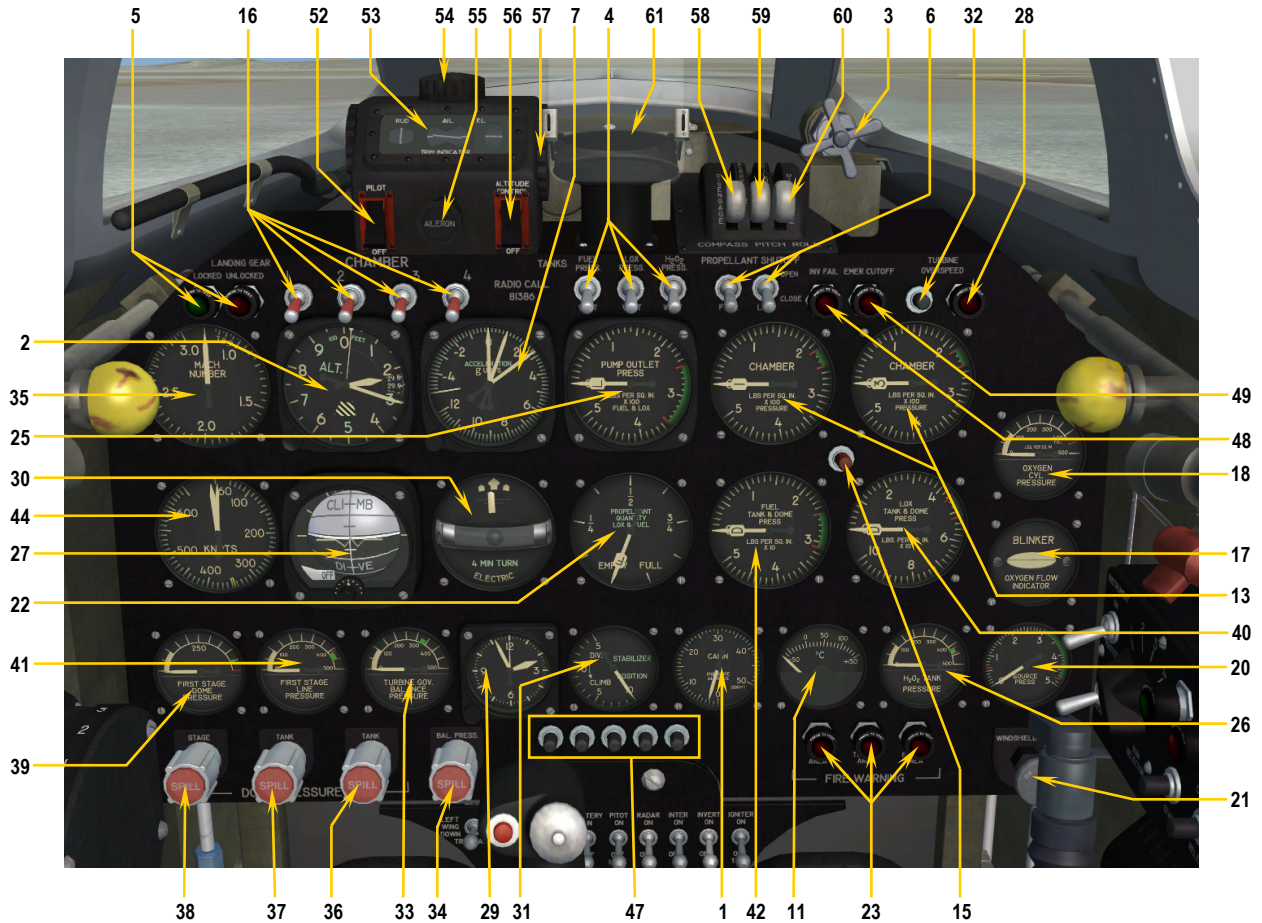

Figure 5-4
A modified Sperry A-12 autopilot unit is installed in the Xtreme Prototypes X-1C for Flight Simulator X (see fig. 5-4). Most of the following autopilot levers and switches on the unit are self explanatory:
**AP Autopilot Master Switch** – Self explanatory [52, fig. 5-4].
**AP Dual Elevator Trim Wheels** – Turning either wheel [57, fig. 5-4] up or down with the mouse wheel will command the plane's nose up or down.
**AP Turn Knob** – Turning the AP turn knob [54, fig. 5-4] with the mouse wheel will command a turn with a bank proportional to knob position. To roll out of the turn and level the wings, simply return the turn knob to its center position.
**AP Trim Conditions Indicator** – The indicator [53, fig. 5-4] displays rudder, aileron and elevator trim conditions.
**AP Altitude Hold Switch** – Self explanatory [56, fig. 5-4].
**AP Aileron Trim Knob** – Turning the AP aileron trim knob with the mouse wheel [55, fig. 5-4] will actuate the
**AP Compass Hold (FS AP Heading Hold) Lever** – Self explanatory [58, fig. 5-4].
**AP Pitch Hold (FS AP Attitude Hold) Lever** – Self explanatory [59, fig. 5-4].
**AP Roll Hold (FS AP Wing Leveler) Lever** – Self explanatory [60, fig. 5-4].
The (never built) X-1C, which was designed to test high-speed armaments, was to be equipped with a brown-ing .50 caliber machine gun in the nose and a gun sight for the pilot, above the main instrument panel, in the cockpit (see fig. 5-4).